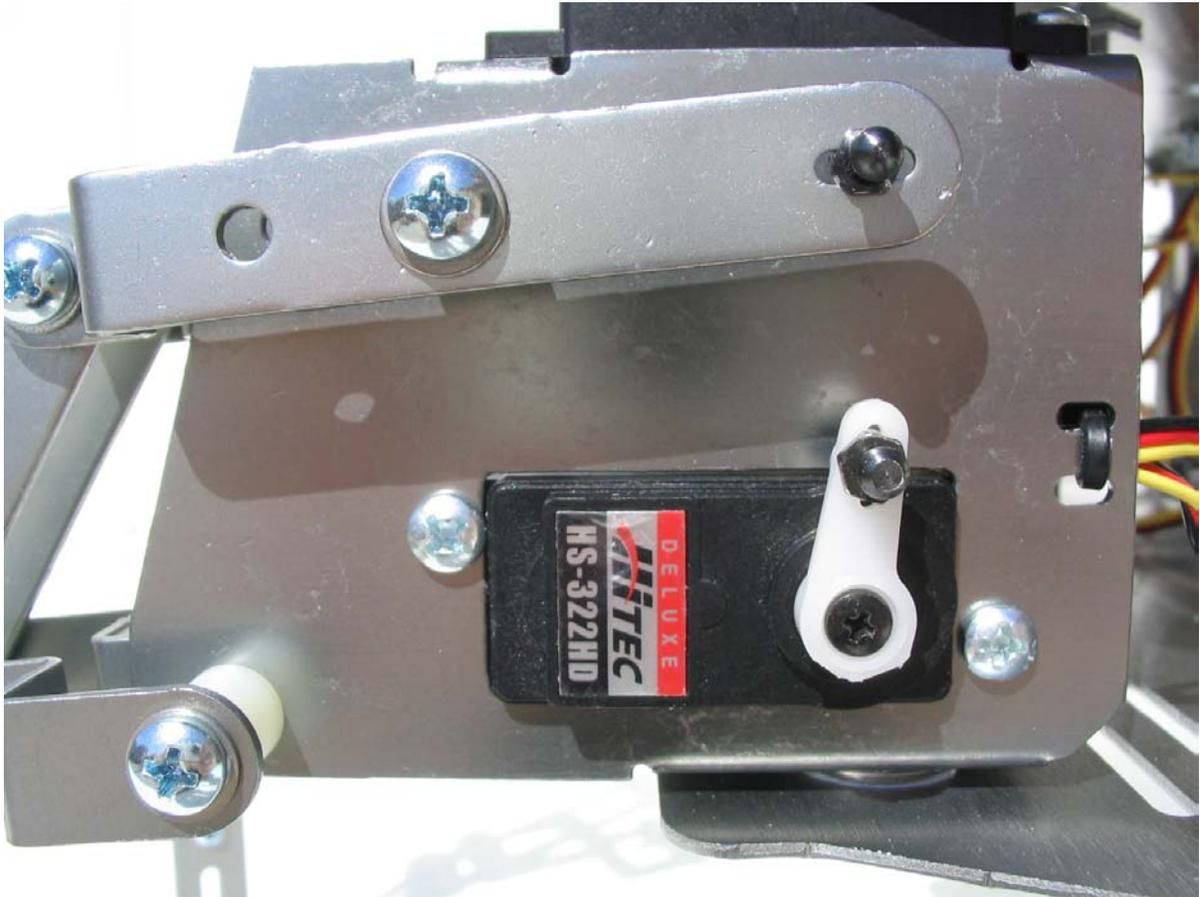

Figure 46
3. With the 2/56" threaded ball oriented upwards, install the servo arm to the servo spindle on the lower servo of the leg assembly and secure the assembly with the stock servo screw (see Figure 46).